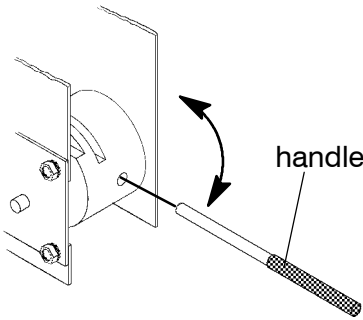

Figure 1-6
- 600 and 800 amp. F–design* See Figure 1-6.